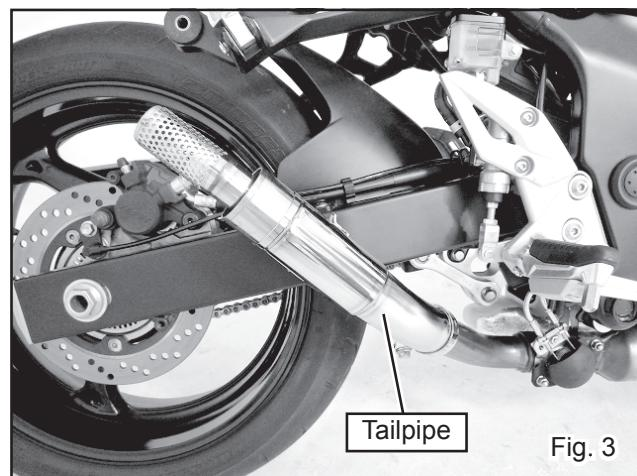

Fig. 3
- 5) Install Tailpipe onto stock header outlet. (See Fig. 3) Do not torque at this time.